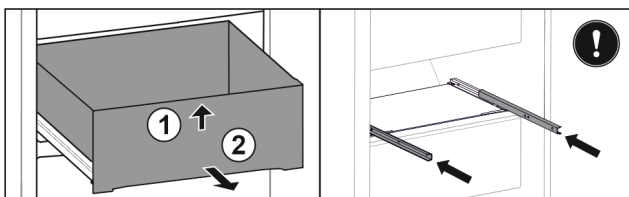

Fig. 36
- ▶ Lift up drawer at the front. Fig. 36 (1)
- ▶ Remove drawer to the front. Fig. 36 (2)